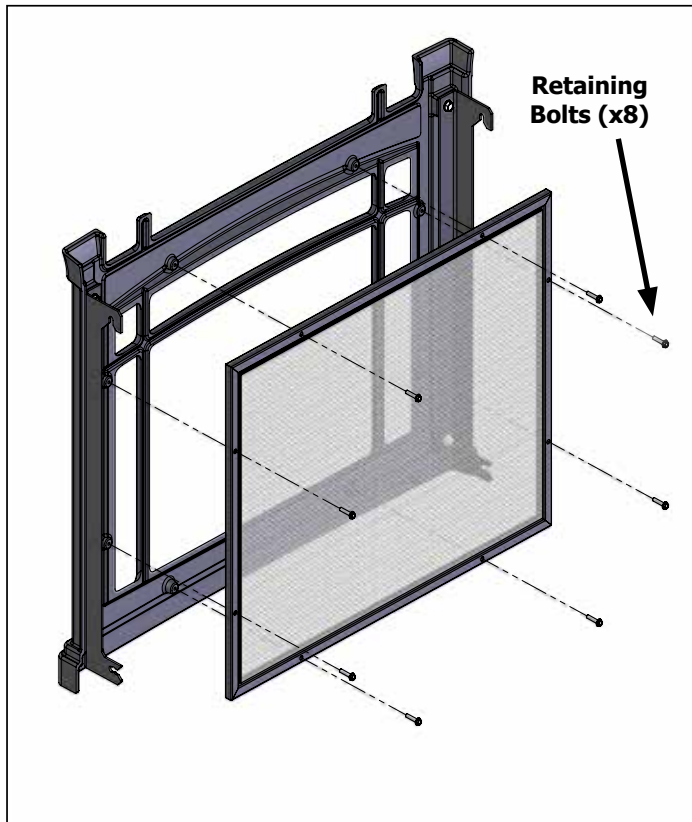

Figure 61. Safety Screen Removal - Front
Step 4: If replacing the side screen skip to step 5. If replacing the front screen remove the eight (8) retaining bolts (Figure 61) using a 1/4" socket and remove the damaged screen while noting the orientation. Install the new screen (50-3715) by simply re-installing the retaining bolts. Re-install the cast door and top to finish.